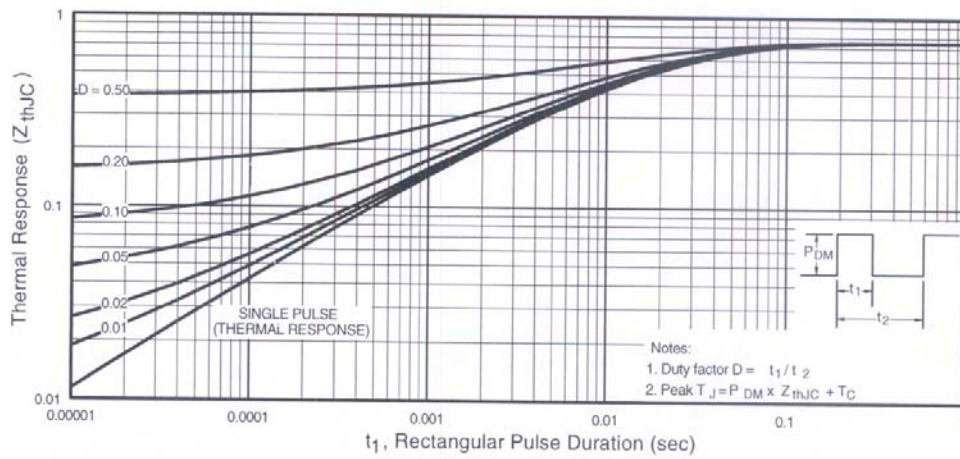

Fig 11. Maximum Effective Transient Thermal Impedance, Junction-to-Case
① Repetitive rating; pulse width limited by max. junction temperature. (See fig. 11)
② Starting $T_J = 25^\circ\text{C}$, $L = 2.4\text{mH}$